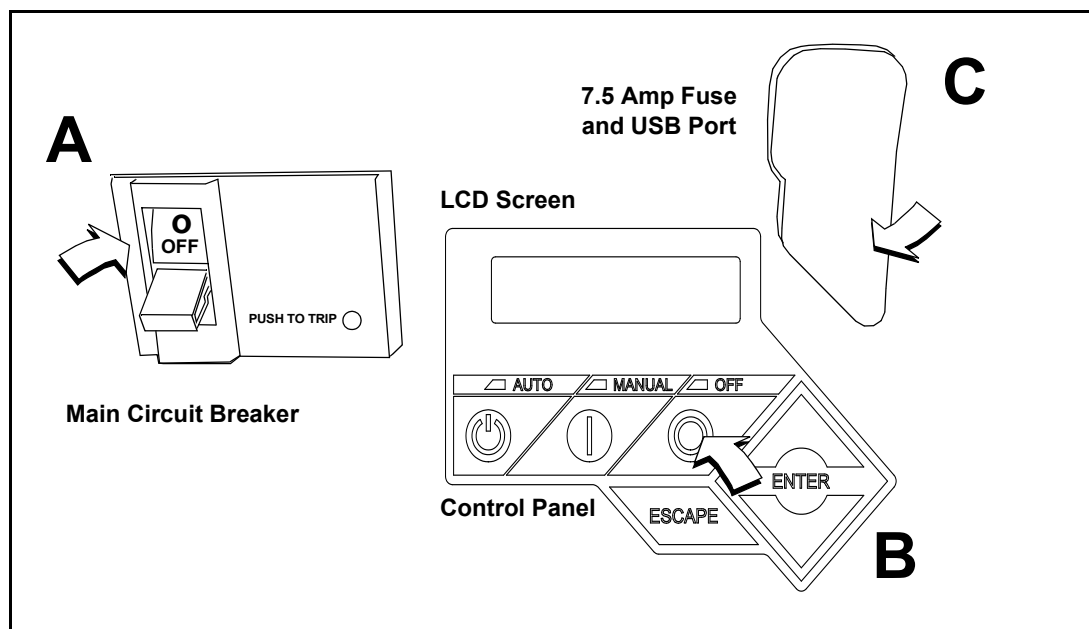

Figure 5-5. Generator Control Panel
2. Move the Main Circuit Breaker switch down to the OFF (Open) position. See A of Figure 5-5.
3. Press OFF on the control panel. A red LED illuminates to confirm that the system is in the OFF mode. See B of Figure 5-5.
5. Pull up rubber flap covering fuse holder and remove 7.5 amp fuse. See C of Figure 5-5.